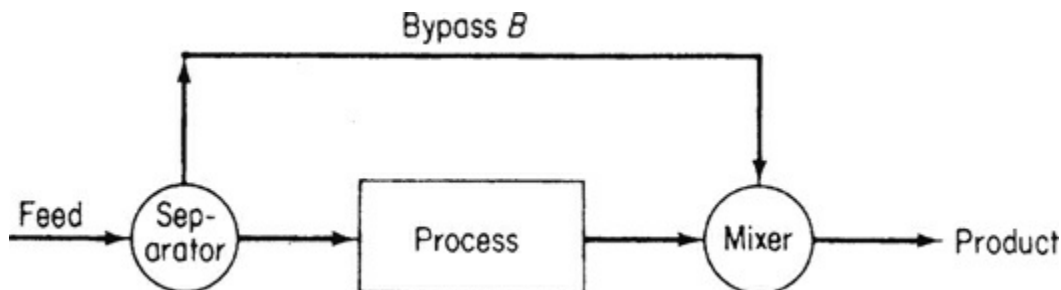

Figure 5.10 A process with a bypass stream
Two additional commonly encountered types of process streams are shown in Figures 5.10 and 5.11:
1. A **bypass** stream is one that skips one or more stages of the process and goes directly to another downstream stage (Figure 5.10).